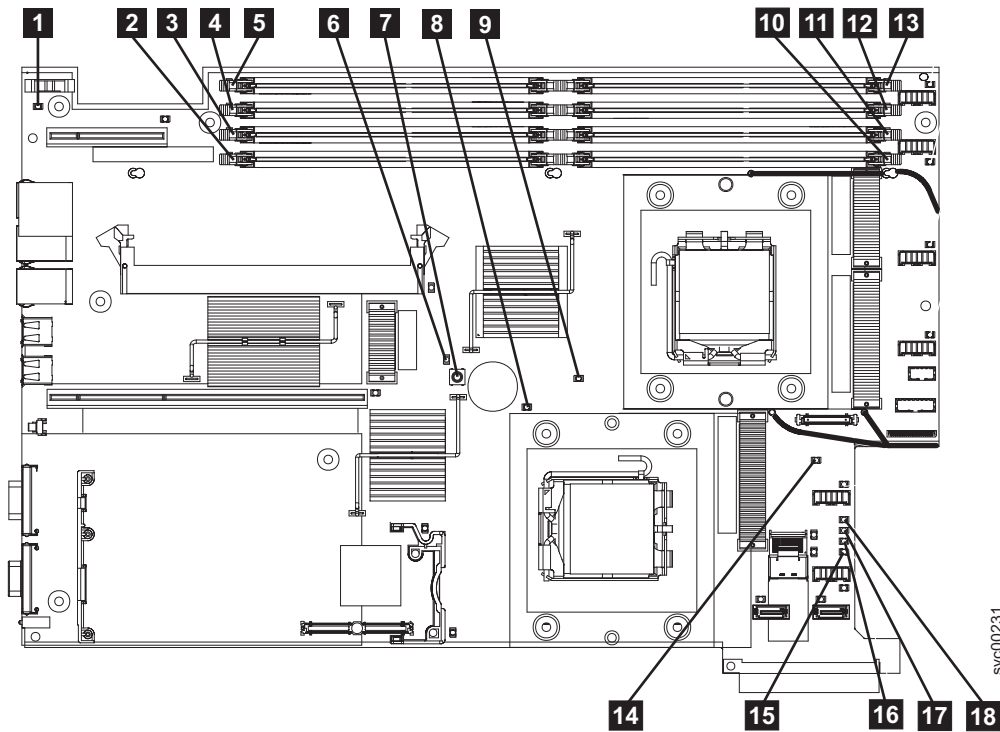

Figure 90. SAN Volume Controller 2145-8G4 system board LEDs
YES See Table 46 on page 251 and perform the action specified for the specific light path diagnostics LEDs. Then go to step 3 on page 252. Some actions will require that you observe the state of LEDs on the system board. Figure 90 on page 250 shows the location of the system board LEDs. The fan LEDs are located adjacent to each FAN. To view the LEDs you will need to do the following:
- d. Press the light path diagnostics button (**7** in Figure 90 on page 250).